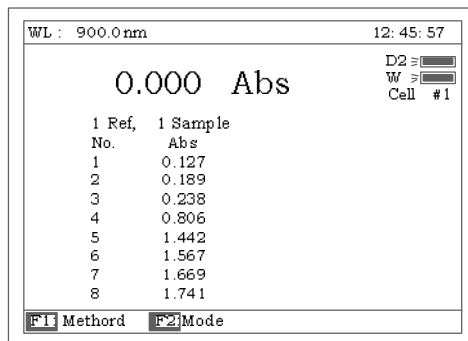

Fig 107
8. Remove 8 references and put 8 samples into CELL NO.1-NO.8, Press the **【START】**, the results are taken **automatically**. Fig 107.